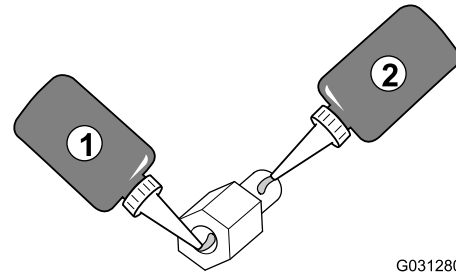

**Figure 6**
1. At the back of the sprayer monitor and with the 2 connectors (26 pin) aligned down, remove the top locknut (5 mm) from the stud for the ball-pivot fitting (A of Figure 6).
3. Thread the standoff into the stud for the ball-pivot fitting (B of Figure 6) and torque the standoff to 250 N·cm (22 in-lb).
5. Remove the backing from the 2 adhesive strips (B of Figure 6) that you applied in Applying the Adhesive Strips to the X30 Sprayer Monitor (page 2).
6. Align the hole in the display hood with the stud portion of the threaded standoff (B of Figure 6).
7. Assemble the hood to the monitor (C of Figure 6) with the locknut (5 mm) that you removed in step 1.